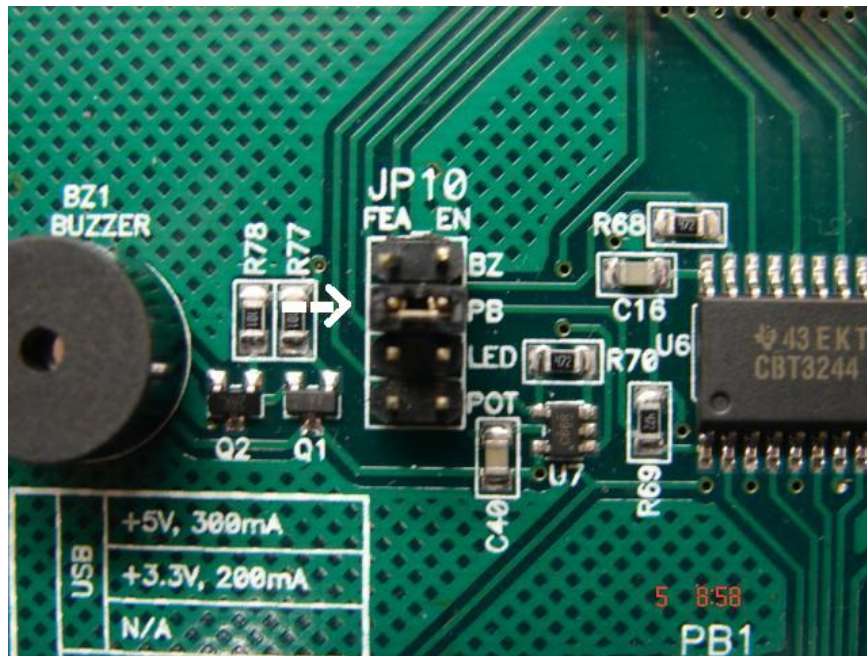

Figure 16 MCU Project Board Jumper setting for use with APS12D
- ◆ Make sure only the jumper PB on option header FEA_EN on MCU PROJECT BOARD 2 is connected and all the others are unconnected as pictured in Figure 16